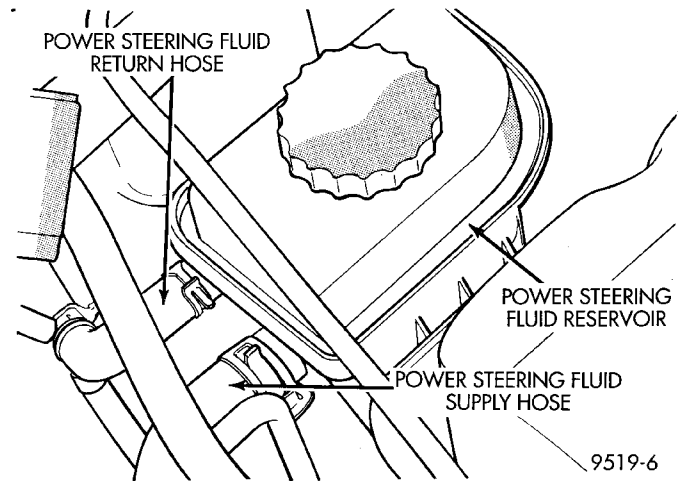

Fig. 19 Power Steering Fluid Supply Hose At Reservoir
(Fig. 19). Then remove power steering fluid supply hose from power steering fluid reservoir.
(2) Install power steering fluid supply hose on power steering fluid reservoir fitting. Install hose clamp on power steering fluid supply hose at power steering fluid reservoir (Fig. 19). **Be sure hose clamp is installed on return hose past upset bead on power steering fluid reservoir.**